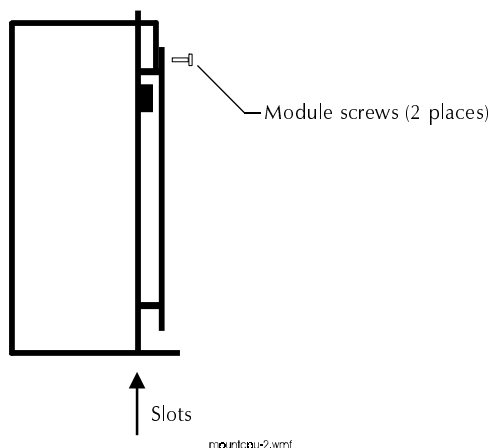

Figure 2-21 Securing a CPU to a Chassis
2. Push the back end of the module down into the cabinet and pull down until the upper board engages the slots on the chassis as shown in Figure 2-21: